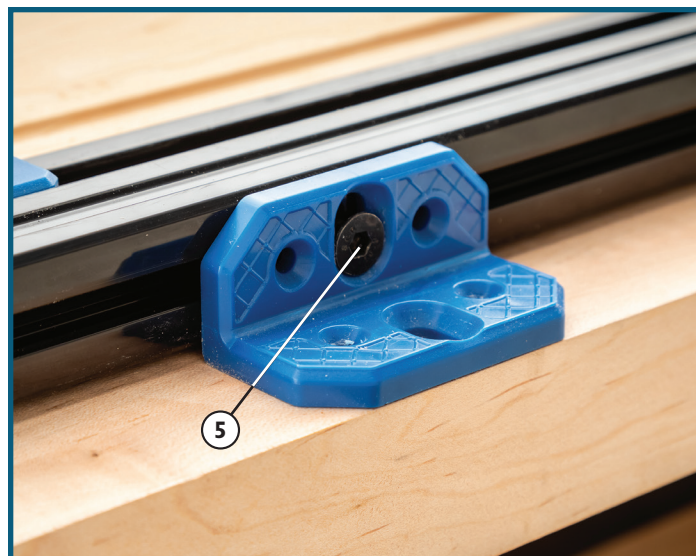

Fig. 3 - Orientation for 3/4" to 1" thick workpieces
1. Determine on which Rails (1) it will be best to mount the Clamping Brackets (4). This will depend, in part, on how you plan to secure them to the work surface. If you plan to use clamps to secure the jig in a corner of your work surface, you will need to position two Clamping Brackets along each of the two Rails that will be accessible. If you plan to use screws to attach the Clamping Brackets, which have holes for #8 flathead screws (not included), we recommend positioning the brackets on opposing Rails, two on each.
2. Orient the Clamping Brackets (4) correctly for the thickness of your workpiece. Orient the bracket with the shorter leg against the Rail (1) for workpieces between 3/4" and 1" thick. Orient the bracket with the longer leg against the Rail for workpieces between 1" and 1 1/4" thick. **Figs. 3 and 4.**
3. To install the Clamping Brackets (4), slide two Washer Nuts (6) into the outside T-slot of each of the two Rails (1), spacing them along the Rails. Position each Clamping Bracket so that its mounting hole is aligned with the Washer Nut and then attach with a Flathead Screw (5). Fully tighten the screw with the included Hex Key (12). **Fig. 3 and 4.**